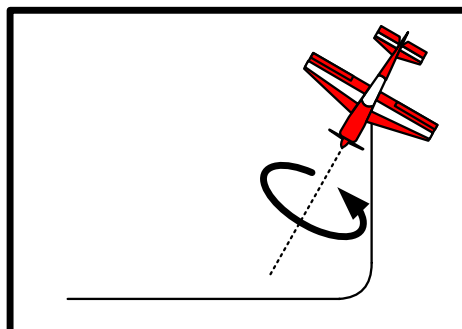

Fig. 25
The wings must remain in the vertical geometric plane throughout the turnaround, and the aircraft's attitude before and after the turnaround must be absolutely vertical (unless wind correction is required), with no extraneous tail movement. There must be no rotation around the pitch or roll axis. If there is movement around any axis other than the yaw axis, often referred as 'torquing' (Fig. 25), there is a deduction of one (1) point for each ten (10) degrees off axis.